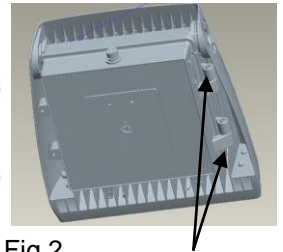

Fig.2
2. Secure fixture body in lock hinges as shown in Fig.2 and Fig.3. Utilize quick connectors to make electrical connections. All electrical connections must remain inside back box. Secure any loose wires to harness prior to closing and securing fixture body. Tighten screws to seal fixture (10-15 in.lb).